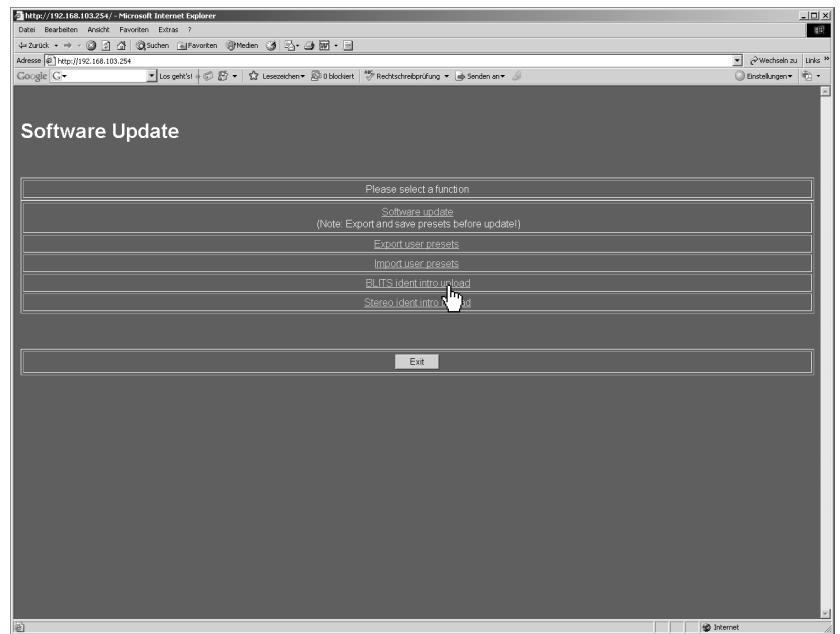
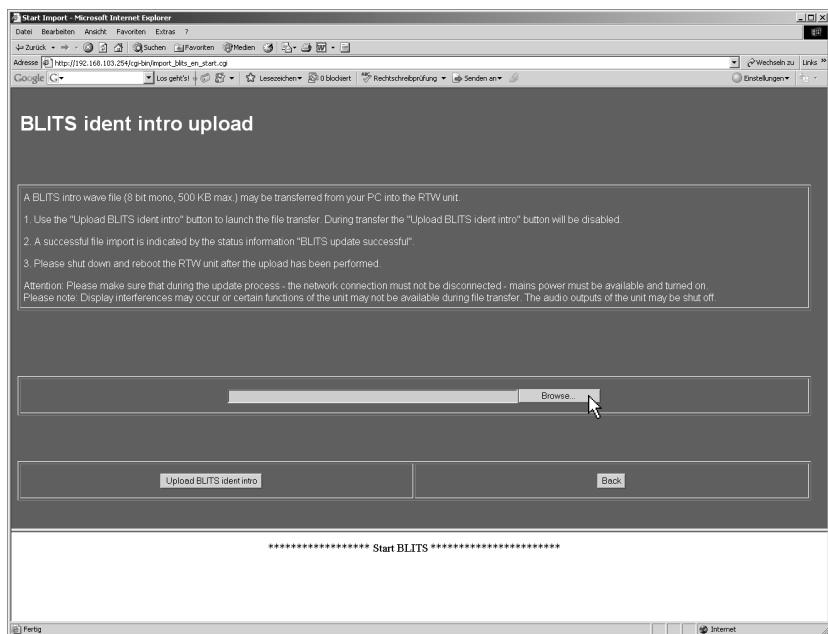
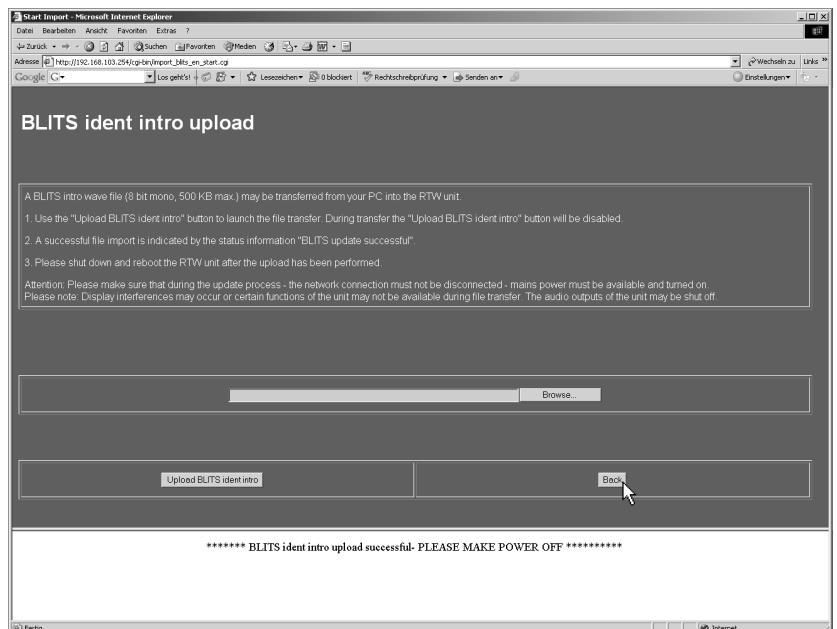

Fig. 8-27: Software Update Program menu in web browser
Fig. 8-28: Display of the BLITS ident intro upload menu page (Browse ...)
Fig. 8-31: End of the BLITS ident intro upload
2. The SurroundControl units should respond with a screen like the one shown in Fig. 8-27. Choose BLITS ident intro upload. **Please note the instructions on the BLITS ident intro upload menu page** (see Fig. 8-28).
3. Please click the **Browse ...** button (see Fig. 8-28) to browse for the ident intro wave file.
6. When "BLITS ident intro upload successful – PLEASE MAKE POWER OFF" is displayed the ident intro upload process is finished (see Fig. 8-31). For activating the ident intro wave file the SurroundControl unit has to be restarted.
7. Click the **Back** button (see Fig. 8-31) to get back to the home page (see Fig. 8-27). There please click the **Exit** button to leave the software update program.